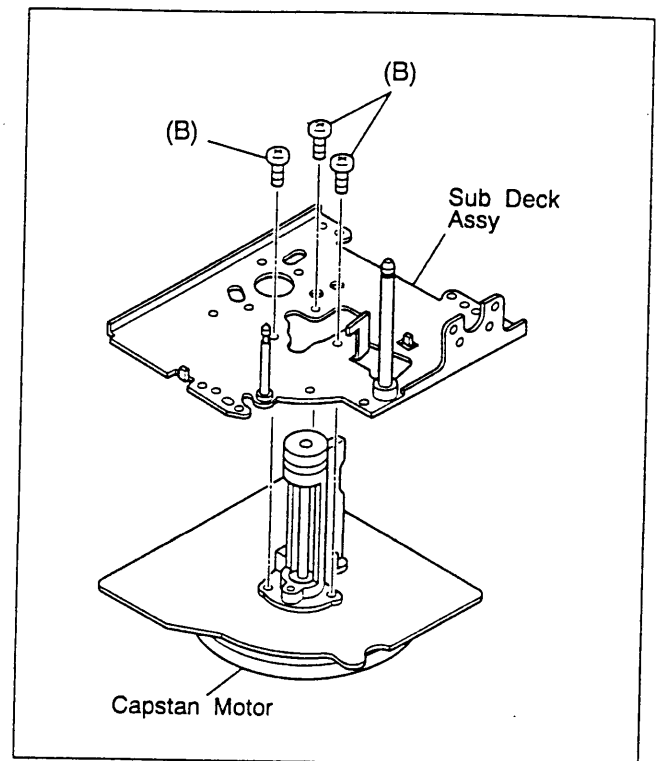

Fig.2-5-9
- (4) Take out 3 screws (B) and remove the capstan motor from the sub deck assy as indicated in Fig.2-5-9.